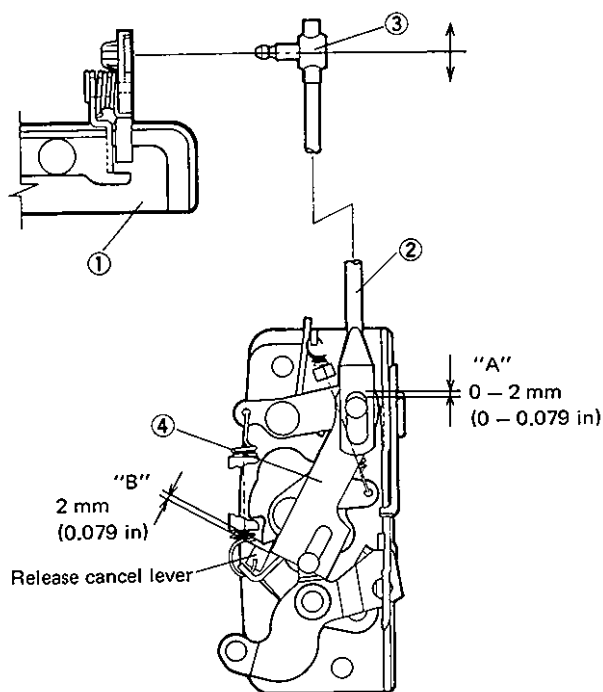

Fig. 20-23
When installing open rod ② onto outside open handle ①, adjust clearances "A" to 0 - 2 mm (0 - 0.079 in) and "B" to 2 mm (0.079 in) as shown in Fig. 20-23 by turning adjusting joint ③.